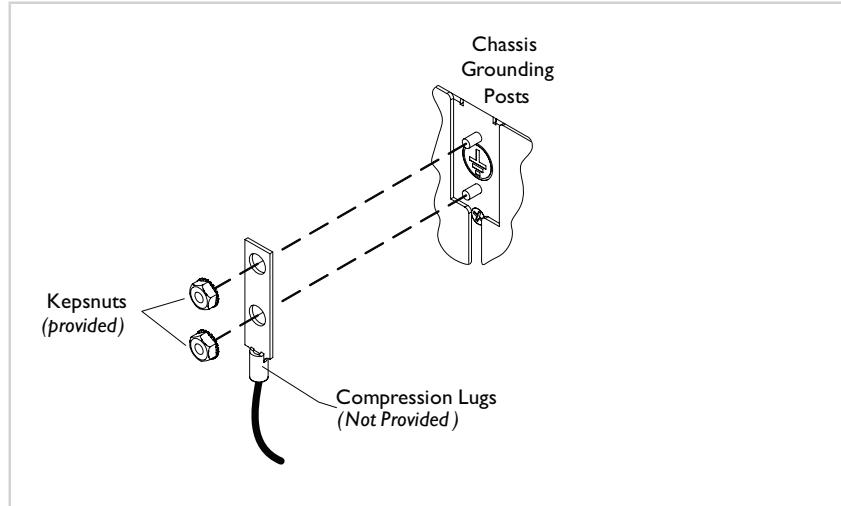

Figure 3: Chassis Grounding Hardware
- If necessary, remove the grounding hardware from the chassis before installing or removing the Power Module. See Figure 3.